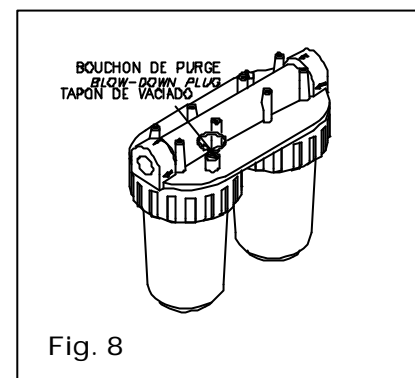

Fig. 8
6. Completely open the pressure regulating valve (12) by turning anti-clockwise.
7. Put the inlet valve (2) in sea water feeding position.
8. Open the hull valve (V0) to bleed the circuit. To make it easier, open the cleaning valve (13). Check that the sea water arrives at the filter. In the opposite case, review the feeding pipes and eliminate the water leakage and the trapped air. Open the bleeding valve situated at the top of the filter (Fig. 8), in order to fill it completely. If it is not possible, review the feeding pipes and eliminate the water leakage and the trapped air.
9. Press the ON button (green) (30).